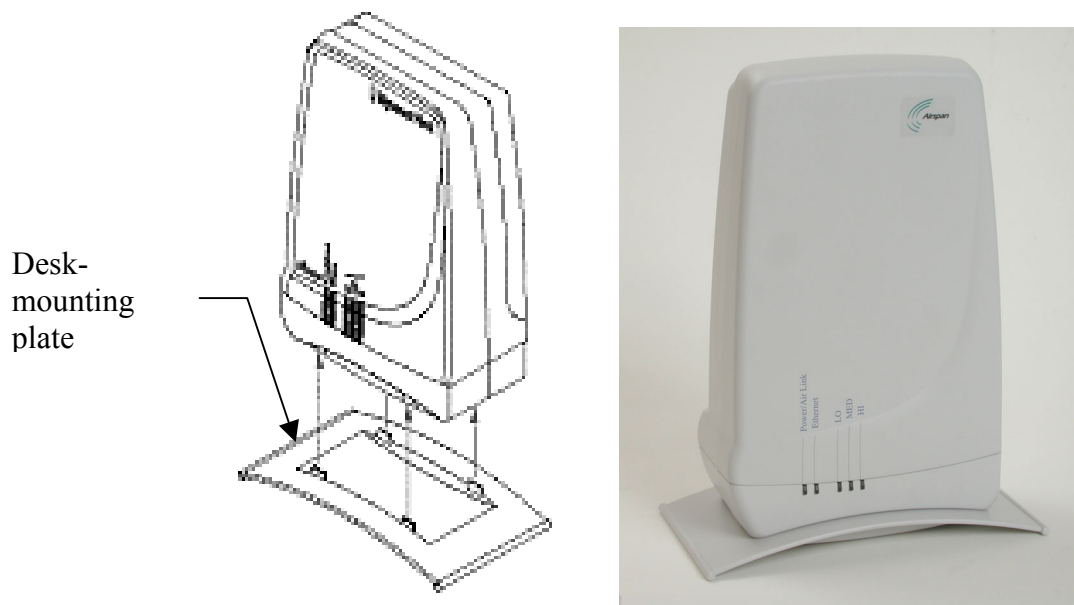

Figure 12-2: IDR vertical desk mounting
- Insert the IDR into the base plate, pressing firmly until the tabs click into place (see Figure 12-2).